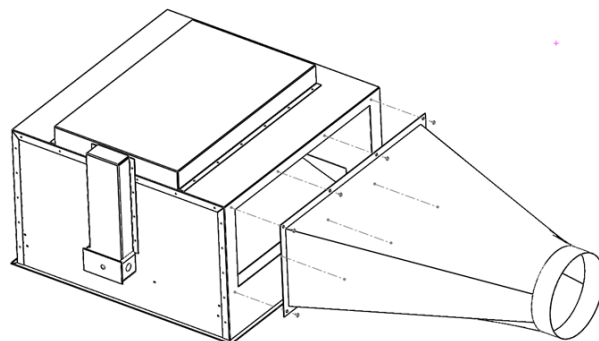

Figure 1. Collar should be perfectly aligned with the rectangular opening in the plenum
1. Align the conical collar with the rectangular opening on the side of the plenum as shown in Figure 1.